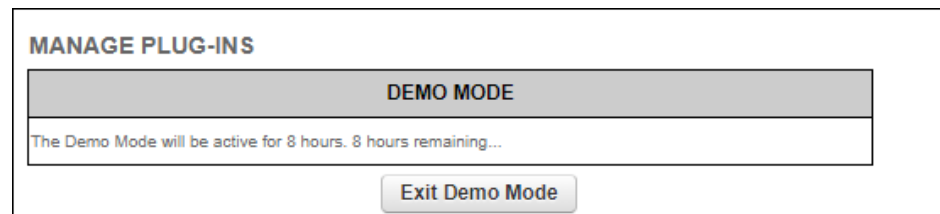

Figure 56. MANAGE PLUG-INS dialog (Demo Mode activated)
- The **Demo Mode** activation dialog will be shown (Figure 56 \(page 136\)). A countdown timer shows how much Demo time remains.